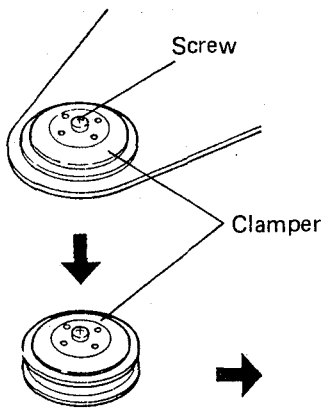

Figure 15
5. Remove screw at the center of clamper assembly mounted on clamper lever, and remove clamper assembly. Assemble the upper and lower halves of the clamper with the screw and use it as a jig. (See Figures 15 and 16)